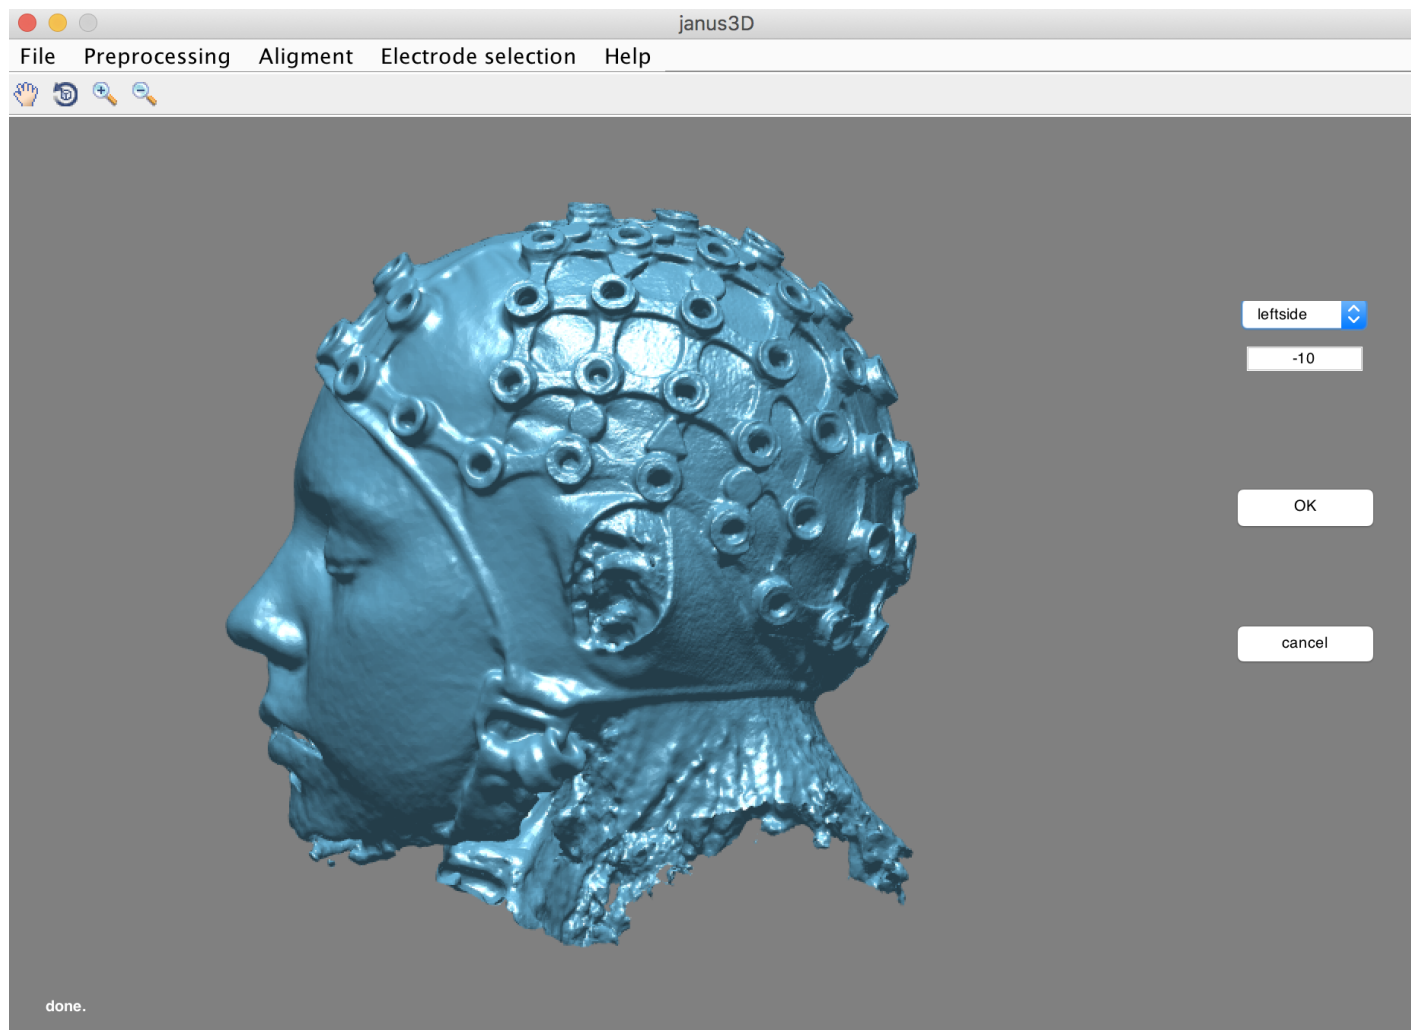
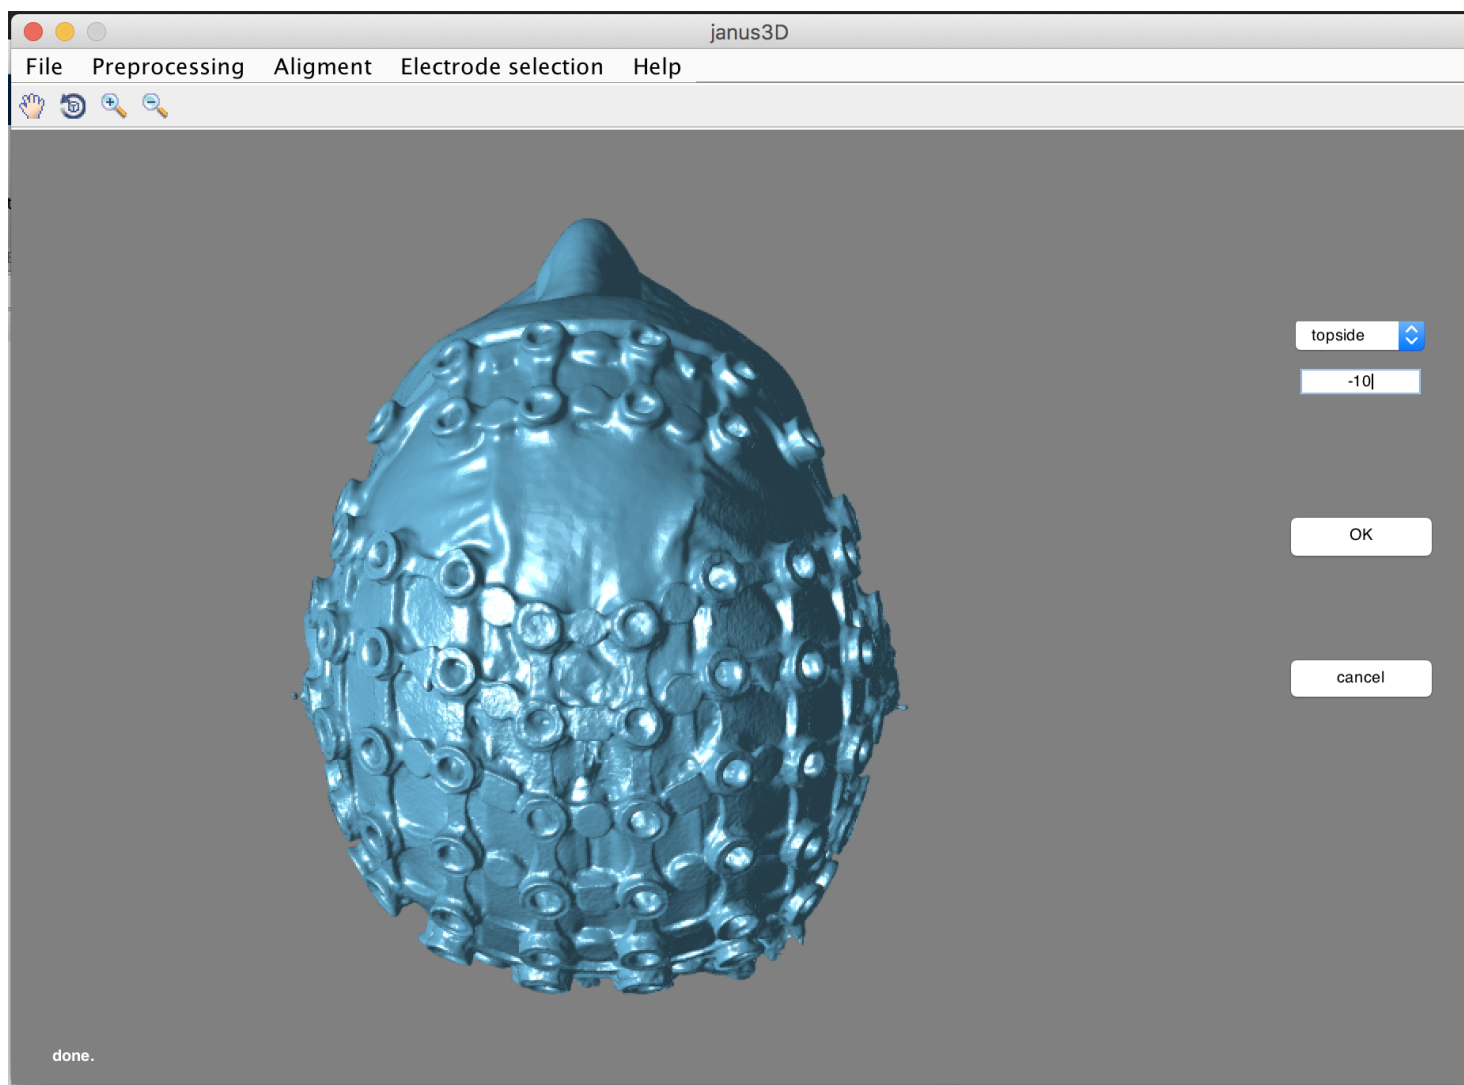
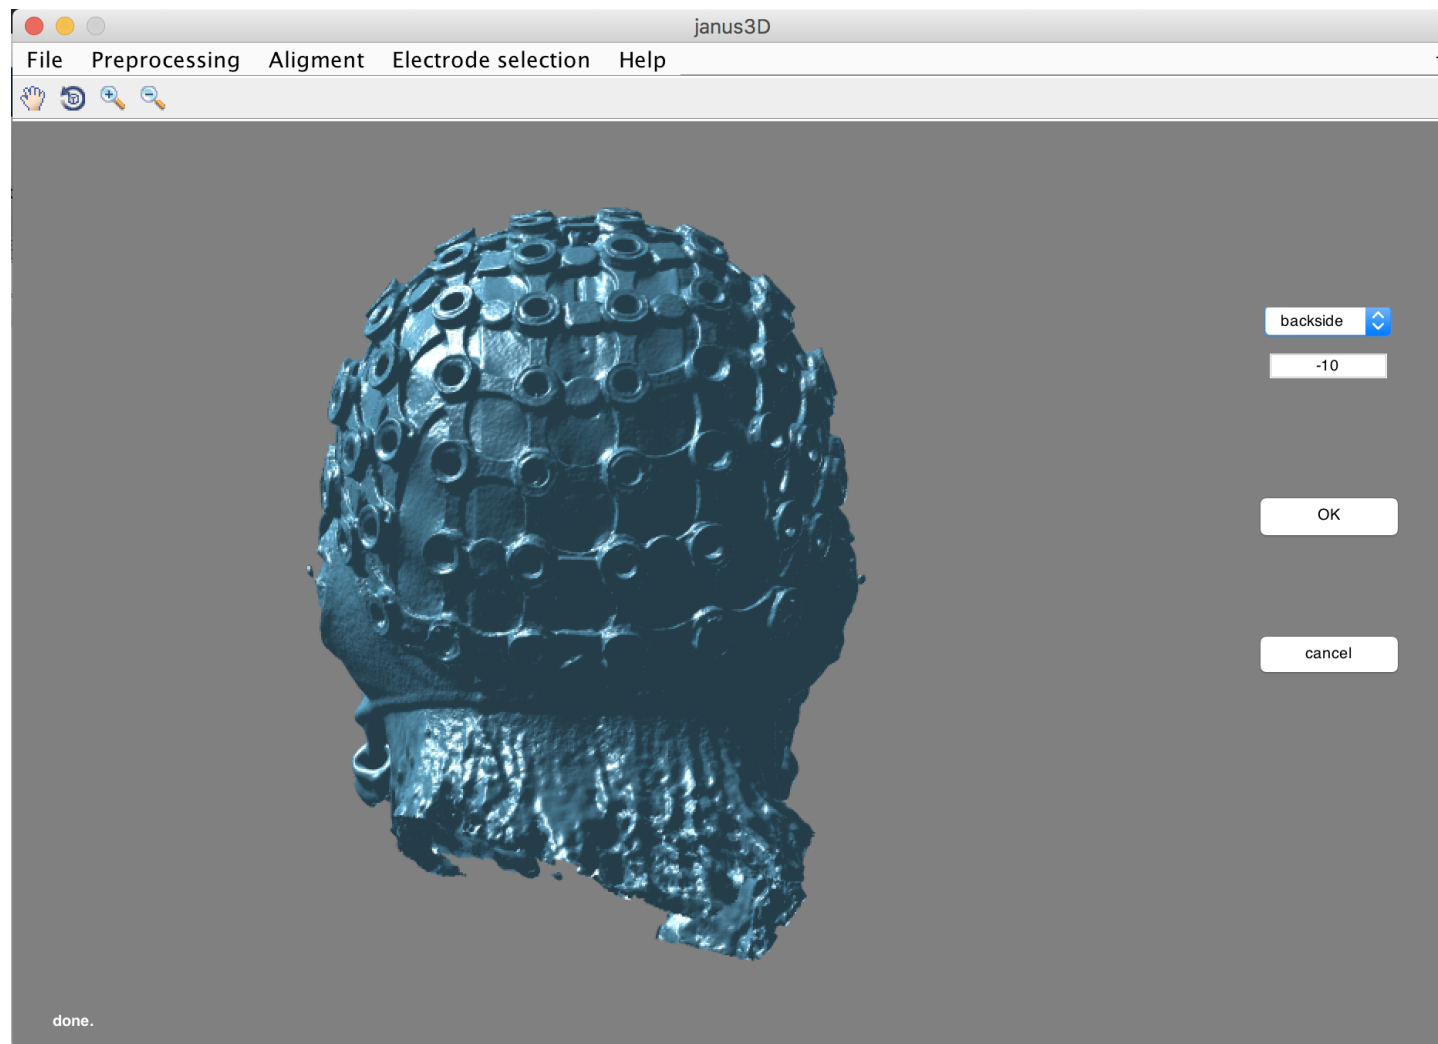
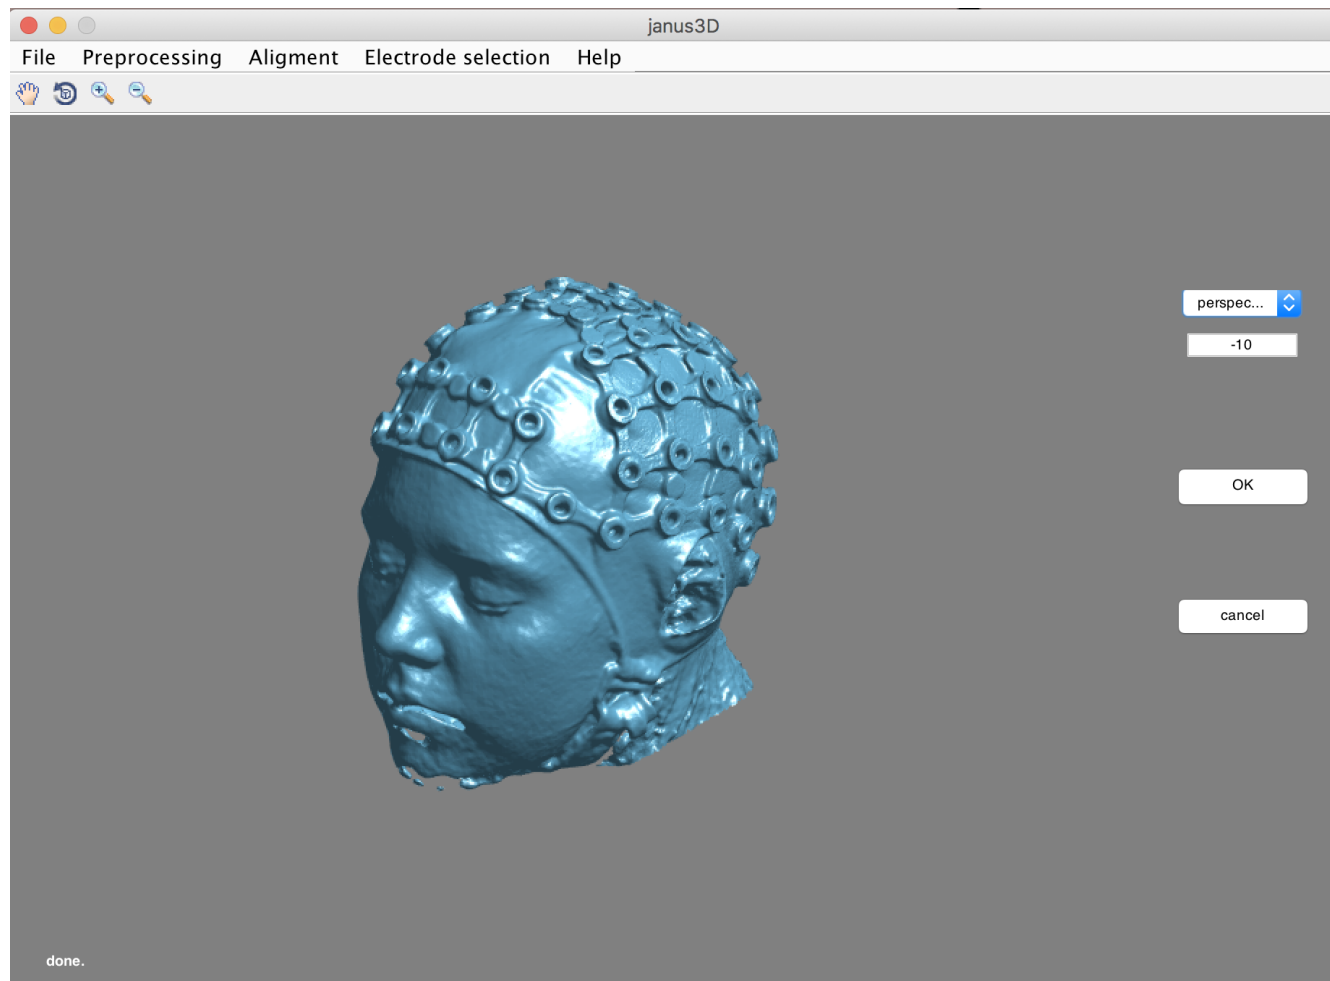

Figure 33. Required position of 3D model in “leftside” view
Figure 34. Required position of 3D model in “topside” view
Figure 35. Required position of 3D model in “backside” view
Figure 36. Required final position after alignment of the model
2. Choose “Preprocessing”, “Model”, “position model”. The 3D model comes in arbitrary space, while the MRI Model can be in native or in MNI space (in our experience, the anatomical scans in MNI space would not align - however, we are curious to hear about other researchers’ experiences). Use the MRI scan in native space for alignment with the 3D model. The 3D model and MRI scan can be aligned manually by rotating the model until they are in the same position. Start by clicking “leftside” and rotate your model by typing in an angle (e.g. 10) in the angle section. After each input press enter, instead of “OK”, as this will end the positioning. Keep in mind that everytime you press enter, the model will rotate 10° (or what angle you have typed in) from its newest position. Rotate your model until the head is in an upright position (Figure 33). Continue clicking “topside” and go on until the nose is pointing at the top of the screen (Figure 34). Then click “backside” and check if the head is upright (Figure 35). Last check the position by clicking “perspective”. Your head should look at the bottom left corner (Figure 36). If the position looks good press “OK”.